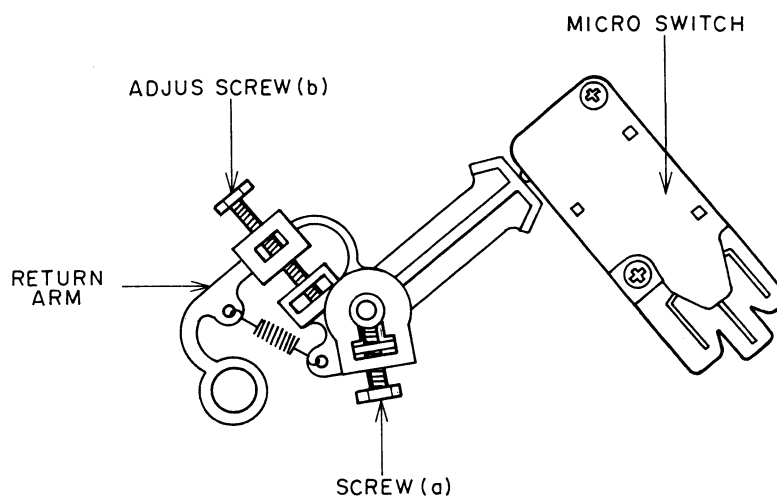

Fig. 9 Auto Return Adjustment
2. AUTO RETURN ADJUSTMENT (Refer to Fig. 9)